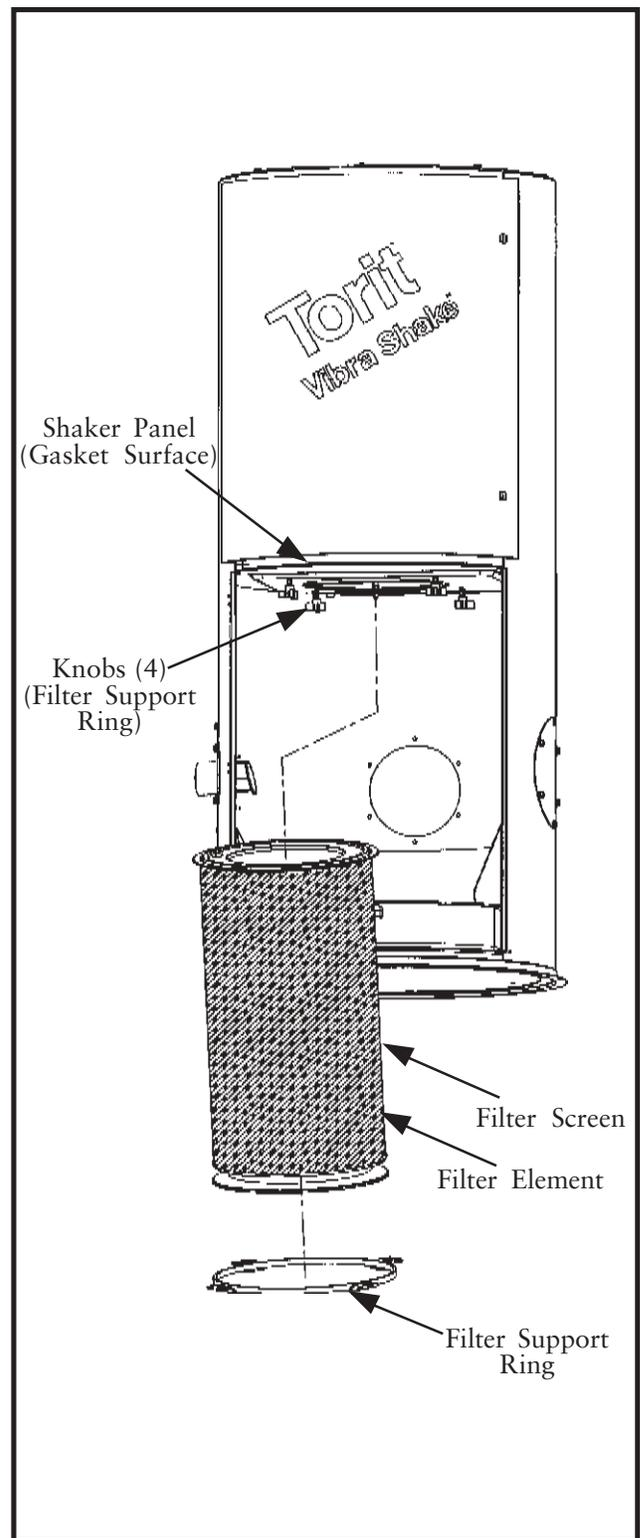

Figure 17
6.1 Filter Replacement (See Figure 17)
<p>a. Filter screen not in place.</p>	<p>6a. Check the filter screen to make sure that it has not slid down. The screen has a velcro seam for easy installation and removal. The screen must be stretched tightly around the filter and located all the way to the top of the filter end cap, covering the perforated liner completely (reference Figure 17 Filter Replacement).</p>
<p>b. Plugged filter screen.</p>	<p>6b. If the filter screen is plugged, remove and wash in cold water only. Note: Hot water will cause screen shrinkage. To reinstall, reference Figure 17 Filter Replacement.</p>